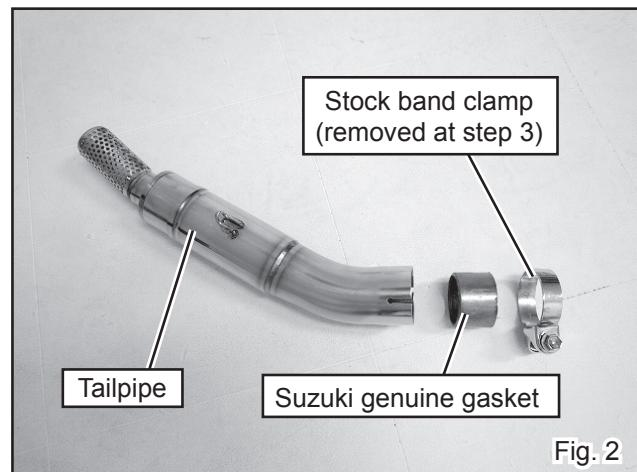

Fig. 2
- 4) Insert Suzuki genuine gasket into Tailpipe inlet and install the stock band clamp over the Tailpipe inlet. (See Fig. 2)